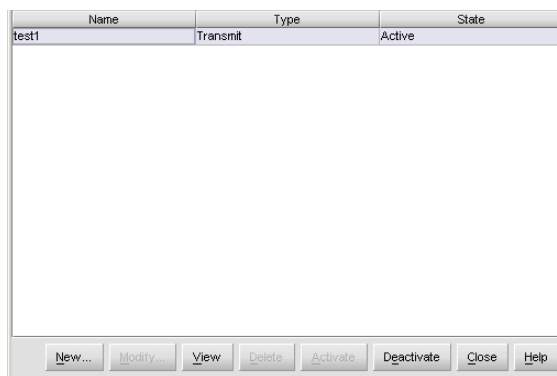

Figure 44: Configure Threshold Alerts dialog box
1. Click **Configure > Threshold Alerts**. The Configure Threshold Alerts dialog box displays, as shown in Figure 44.